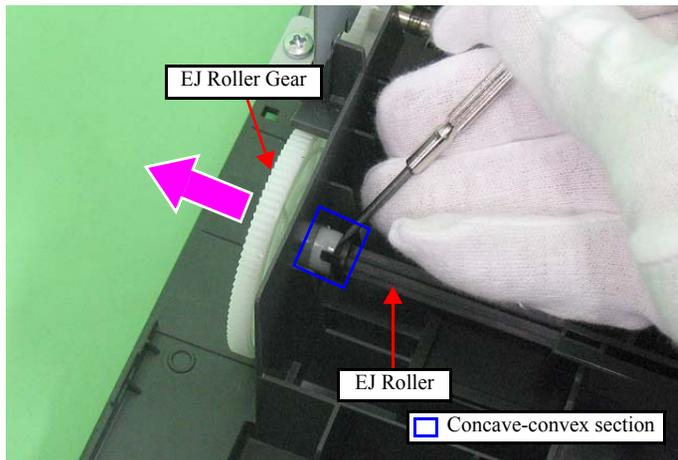

Figure 4-43. Removing the EJ Roller (1)
- When installing the EJ Roller Gear, be sure to align the concave section of the EJ Roller Gear with the convex section of the EJ Roller, then secure them. (See Fig.4-43.)